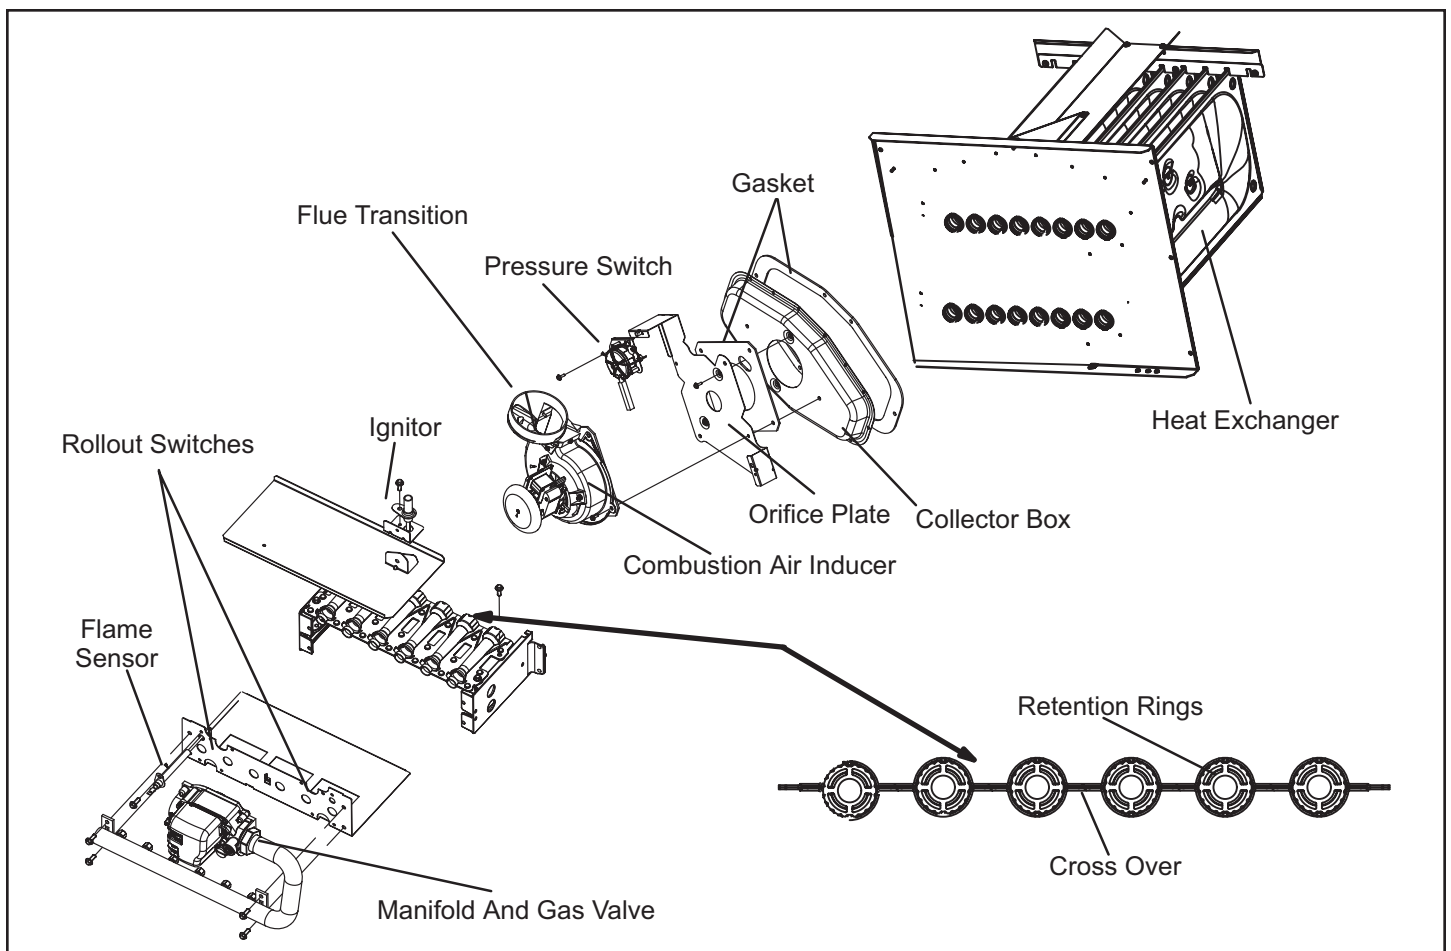

Figure 22. Burner, Combustion Air Inducer Assembly & Heat Exchanger Removal
11. To clean burners, run a vacuum cleaner with a soft brush attachment over the face of burners. Visually inspect inside the burners and crossovers for any blockage caused by foreign matter. Remove any blockage. Figure 22 shows burner detail.